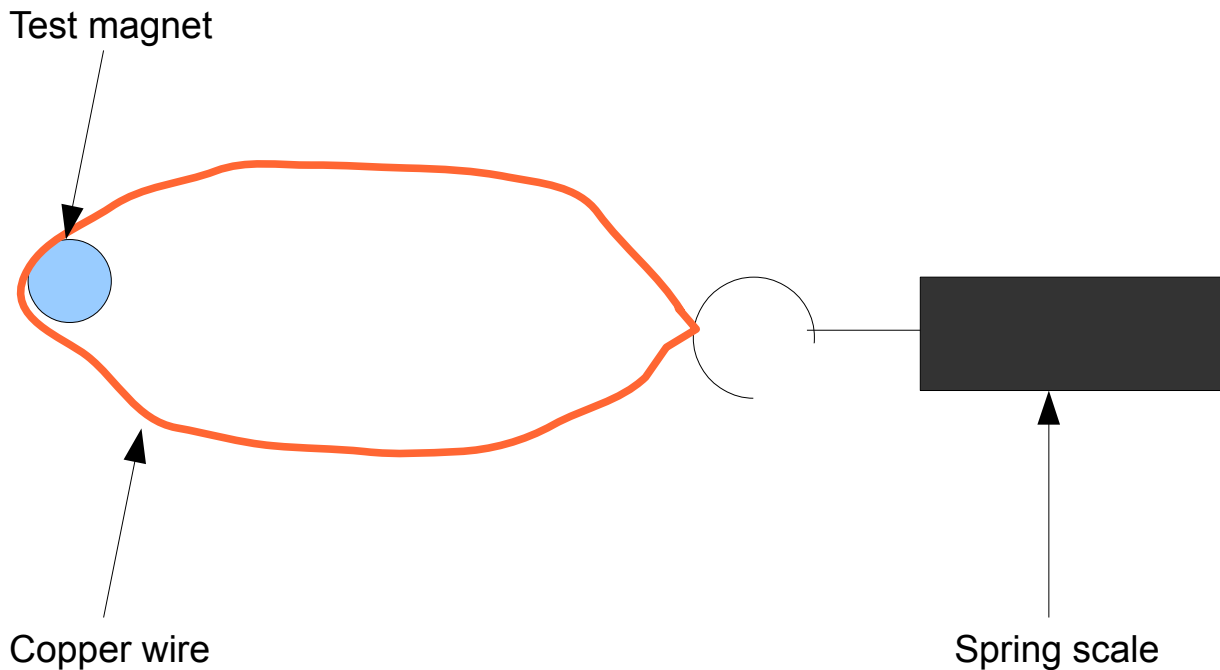

Figure 3: Setup for measuring friction between the test magnet and surface it is resting on.
Step 1: Place the test magnet on a smooth horizontal surface (e.g. a flat tabletop), loop a length of copper wire around the magnet and attach the wire to the hook of the spring scale as shown in figure 3. Keeping it horizontal, pull on the spring scale until the magnet begins to move. The peak force the spring scale recorded should be the maximum friction between the test magnet and the surface it's on, make a note of this value.